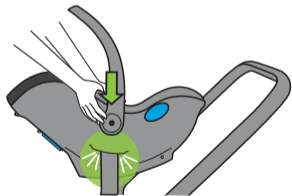

Figure 76
- Push down on each side of the Carrier to lock onto each adapter, as shown in **Figure 76**.